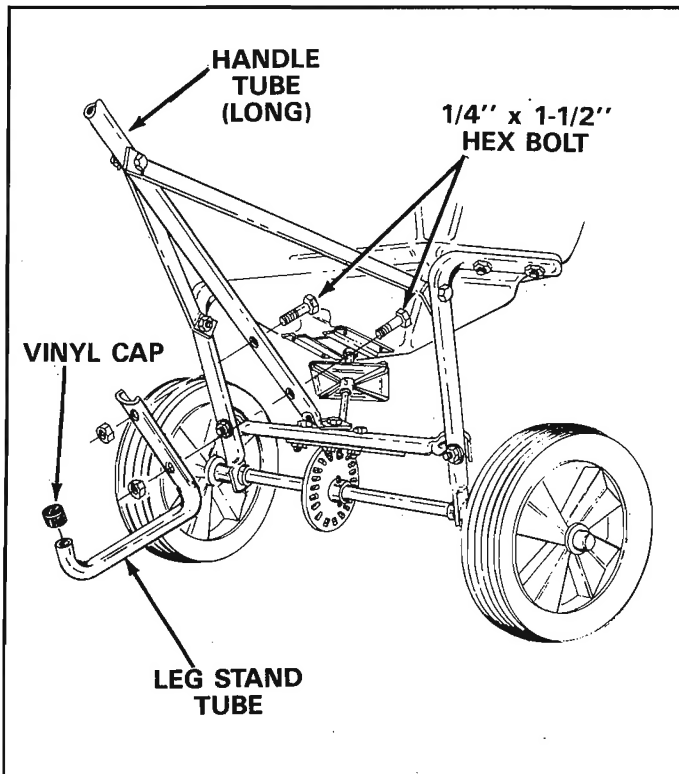

FIGURE 9
14. Assemble the leg stand tube to the handle tube (long) using two (2) 1/4" x 1-1/2" hex bolts. Secure tightly with two (2) 1/4" hex lock nuts. See figure 9.
15. Place vinyl cap on the leg stand tube. See figure 9.